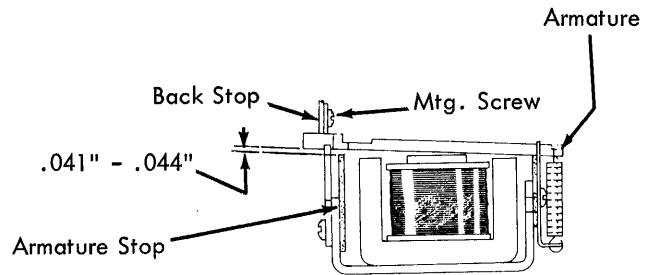

FIGURE 30. Armature Backstop
5. Back Stop (Fig. 30) - Position vertically (with armatures at rest) for a clearance of .041" to .044" between the armature stop and armatures. Measure clearance at the outside armatures (T2 & R5).